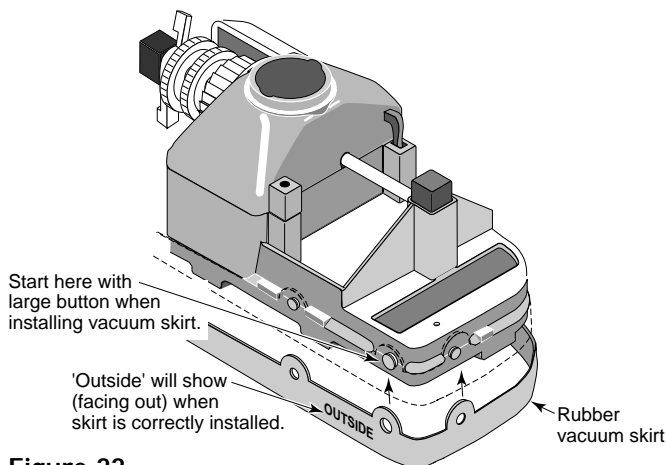
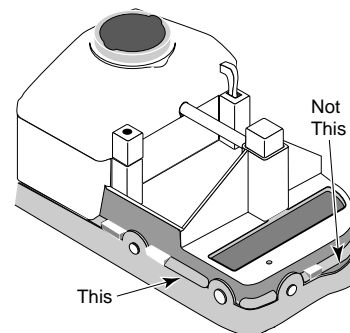

Figure 22
Figure 23
6. Install the rubber vacuum skirt on the cleaner with the word 'OUTSIDE' showing. Start at the large pin on the back of the cleaner head (see Figure 22) and work around the cleaner. Make sure the skirt is flush against the stop strips on the cleaner head (see Figure 23).